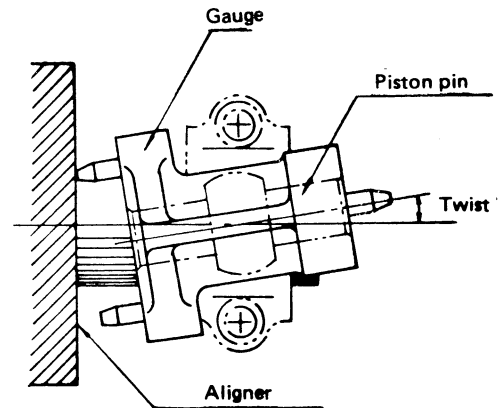

Figure 20
1. Measure the connecting rod for twist, warpage or other signs of damage, Figure 20.